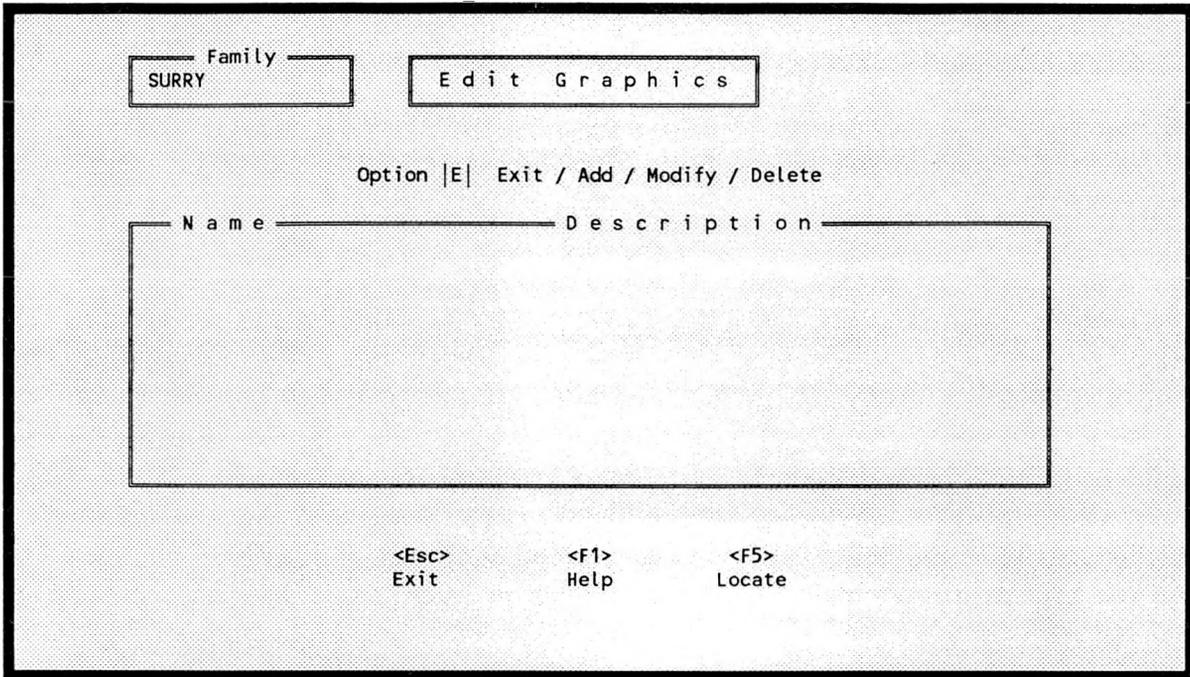
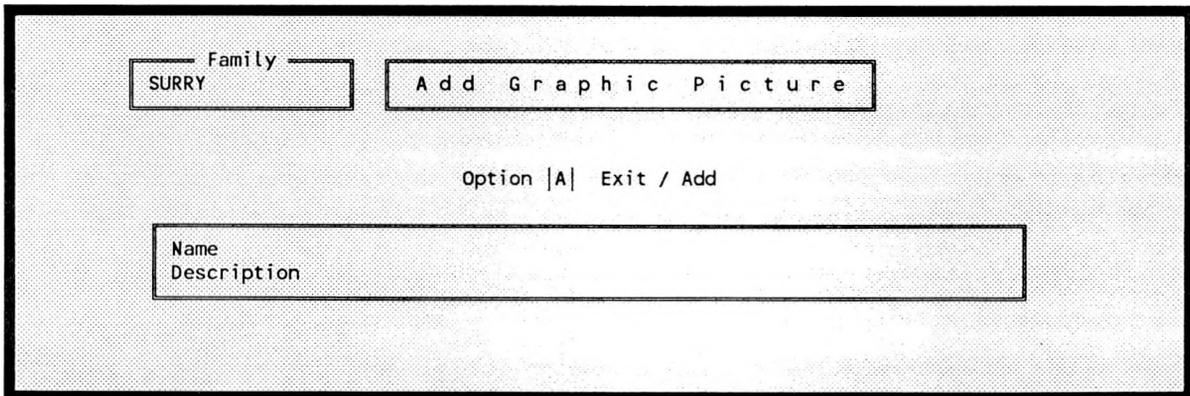

Figure 280. Selection of graphics picture for editing.
Figure 281. Editing screen for adding a graphics picture.
The Edit Graphics screen shown in Figure 280 and succeeding screens Figure 281 through Figure 283 are consistent throughout the graphics option for each of the three categories.
This option allows you to modify the P&ID Graphics records. To invoke this option, type <P> in the option field or highlight P&ID Graphics and press <Enter>. The screen shown in Figure 280, listing the P&ID graphics pictures, will be displayed. The options available are Exit, Add, Modify, and Delete.
8.8.2.2 Add. This option allows you to add a graphics picture record to the data base. To invoke this option, type <A> in the option field and press <Enter>. The Add Graphic Picture screen is shown in Figure 281. The options at this point are Exit and Add.
This option allows you to modify the Fault Tree Graphics records. To invoke this option, type <F> in the option field or highlight Fault Tree Graphics and press <Enter>. The screen shown in Figure 280, listing the fault tree graphics pictures, will be displayed. The options available are Exit, Add, Modify, and Delete.
8.8.3.2 Add. This option allows you to add a graphics picture record to the data base. To invoke this option, type <A> in the option field and press <Enter>. The Add Graphics Picture screen is shown in Figure 281. The options at this point are Exit and Add.
This option allows you to modify the Event Tree Graphics records. To invoke this option, type <V> in the option field or highlight Event Tree Graphics and press <Enter>. The screen shown in Figure 280, listing the event tree graphics pictures, will be displayed. The option available are Exit, Add, Modify, and Delete.
8.8.4.2 Add. This option allows you to add a graphics picture record to the data base. To invoke this option, type <A> in the option field and press <Enter>. The Add Graphics Picture screen is shown in Figure 281. The options at this point are Exit and Add.